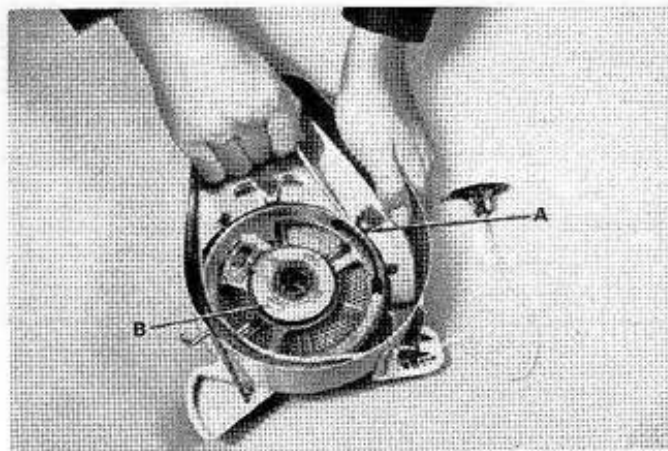

Figure 111. Up and Away Spring Tension.
- b. Grasp the rope in the manner shown and using it to turn the pulley, rotate the pulley 3-3/4 turns from starting point (A). (See Figure 111.) This will tension the spring.